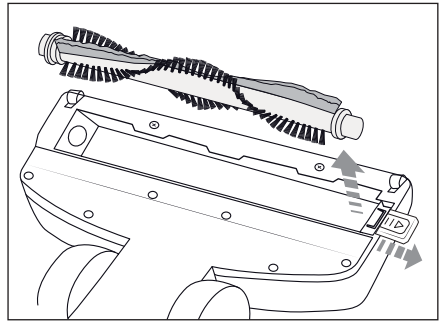

Fig. 7
- 2) Push the catch outwards and remove the rotary brush **15** from the floor nozzle (Fig. 7).